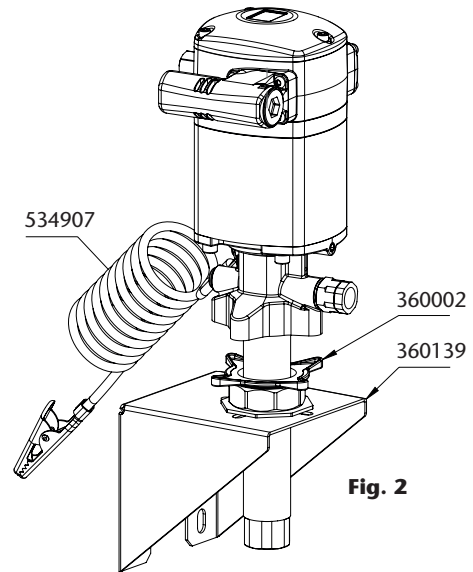

Fig. 2
- Wall mounting with bung adapter. Insert the pump through the wall bracket (360139) and attach it with the bung adapter (360002) (Fig. 2).